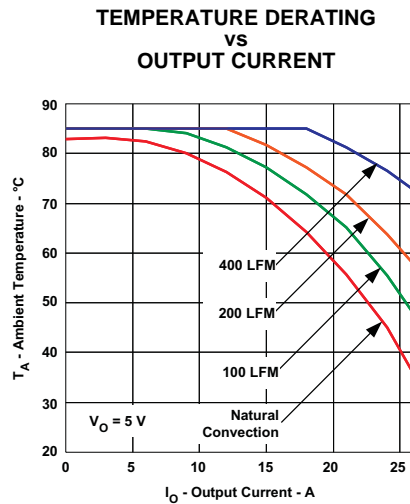

Figure 4.
- (2) SOA curves represent the conditions at which internal components are at or below the manufacturer's maximum operating temperatures. Derating limits apply to modules soldered directly to a 4 in. x 4 in. double-sided PCB with 1 oz. copper. For surface mount products (AS and AZ suffix), multiple vias (plated through holes) are required to add thermal paths around the power pins. Please refer to the mechanical specification for more information. Applies to Figure 4.